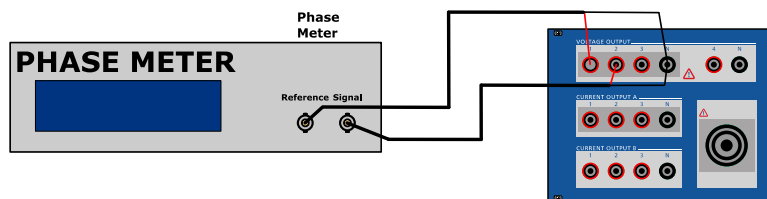

Figure 7 Phase verification setup for voltage outputs.
- ▶ Connect Voltage Output 1 (V1) to the reference connector on the reference phase meter (Figure 7).
- ▶ Connect the channel to be tested to the signal connector on the reference phase meter (Figure 7).